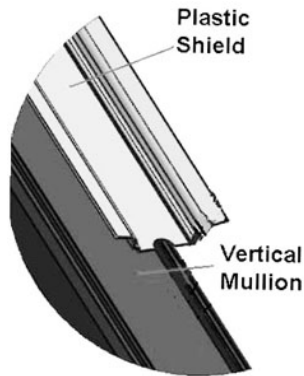

Figure 1.
1. Using a ruler, measure the total width of the mullion at (A) and (B), and mark a vertical line half the total width near the top and bottom of the mullion, as shown in the following illustration.
5. Use a power drill and (1/8") 0.125" dia. drill bit. Drill (1) hole at the intersection of the vertical center line and the horizontal lines.
- b. Place the extrusion notch toward the bottom of the Mullion. Refer to Figure 1.